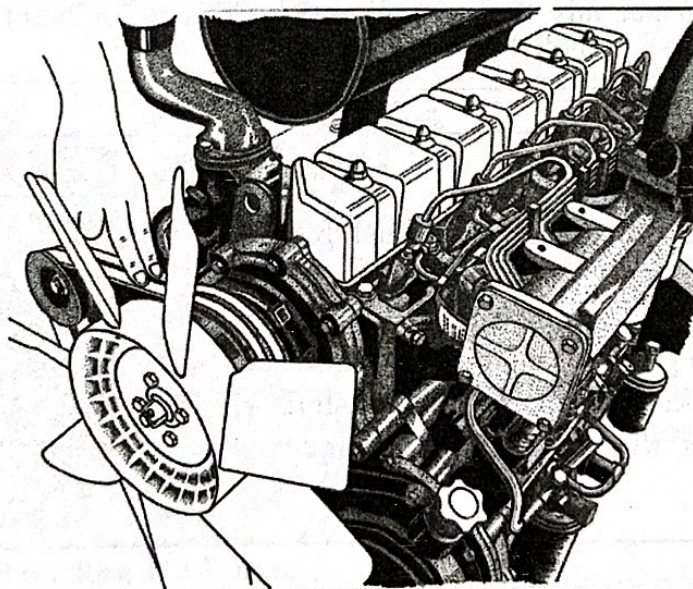

Fig 3-8 Check Belt Tension
3.4 Measure the degree of tightness of fan belt. Press the belt between water pump and generator by hand. The deflection should be 10-20mm. Adjust belt tension if necessary by changing the position of the generator (see Fig3-8). Do not use the new and old one or different brands together.